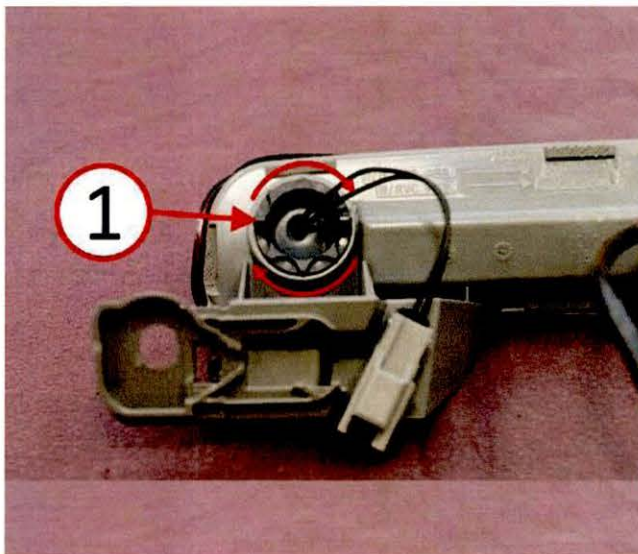

Fig. 5 Passive Entry Switch Installation
6. Install the NEW passive entry switch into the CHMSL housing. Refer to the detailed installation procedures available in DealerCONNECT>TechCONNECT> under: Service Info> 08 - Electrical> 8N - Power Systems> Power Locks> SWITCH, Deck Lid Release> Installation (Fig. 5).